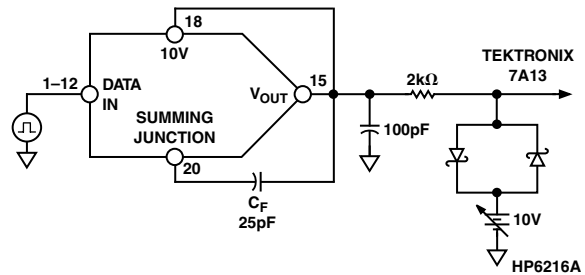

Figure 3a. Voltage Model Settling Time Circuit
- ⁵ $C_F = 0$, see Figure 3a.
Three settling times are specified to 0.01% of full scale range (FSR); two for maximum full scale range changes of 20 V, 10 V and one for a 1 LSB change. The 1 LSB change is measured at the major carry (0 1 1 1 . . . 1 1 to 1 0 0 0 . . . 0 0), the point at which the worst case settling time occurs. The settling time characteristic depends on the compensation capacitor selected, the optimum value is 25 pF as shown in Figure 3a.
Gain and offset drift are minimized in the ADDAC80 because of the thermal tracking of the scaling resistors with other device components. Connections for various output voltage ranges are shown in Table III. Settling time is specified for a full-scale range change: 4 μ s for a 10 k Ω feedback resistor; 3 μ s for a 5 k Ω feedback resistor when using the compensation capacitor shown in Figure 3a.